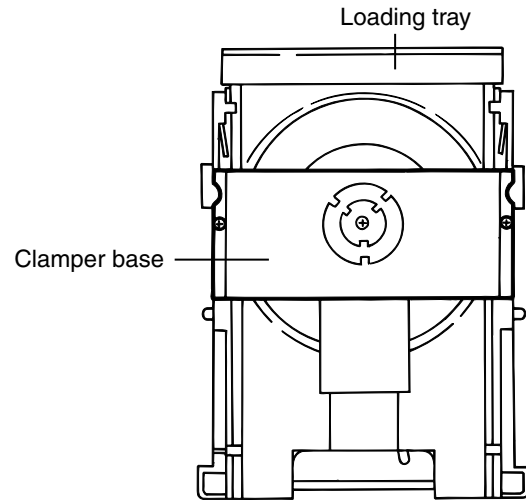

Figure 1
■ Removing the clamper base (refer to Figure 1)